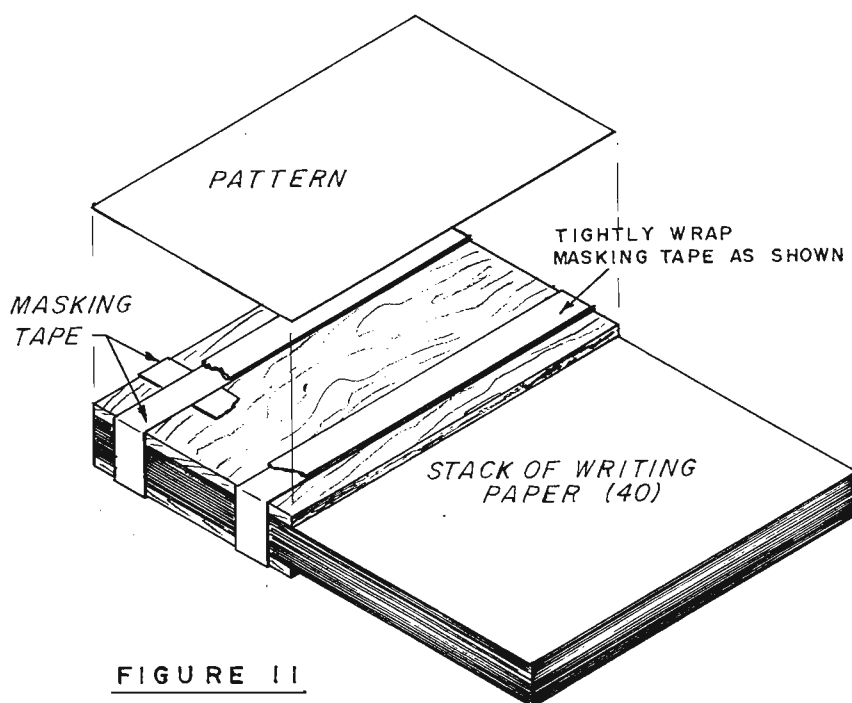

FIGURE 11
Step 3 Tape all four edges using 3/4"-wide masking tape. Spray adhesive on the back of the pattern and attach the pattern to the top piece of plywood. (See figure 11.)